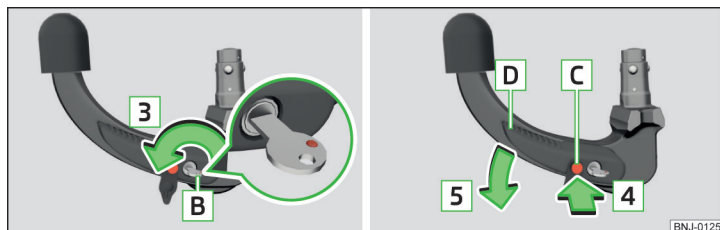

Fig. 152 Lock unlock / press release bolt and lever and push
- › Turn the key **B** in the direction of arrow **3** so that the red marking points upwards » Fig. 152.